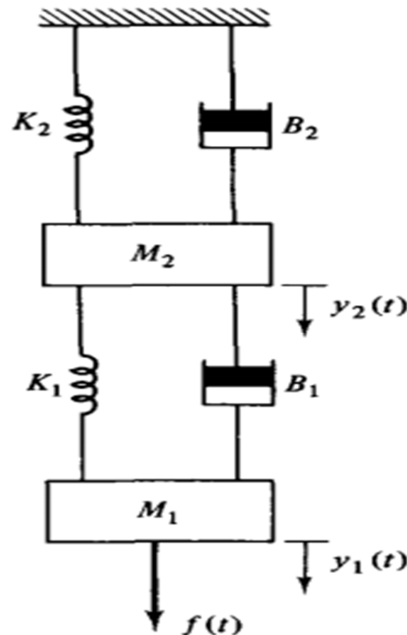

Figure Q 1f)
- f) A Mechanical System is shown in Figure Q 1f)